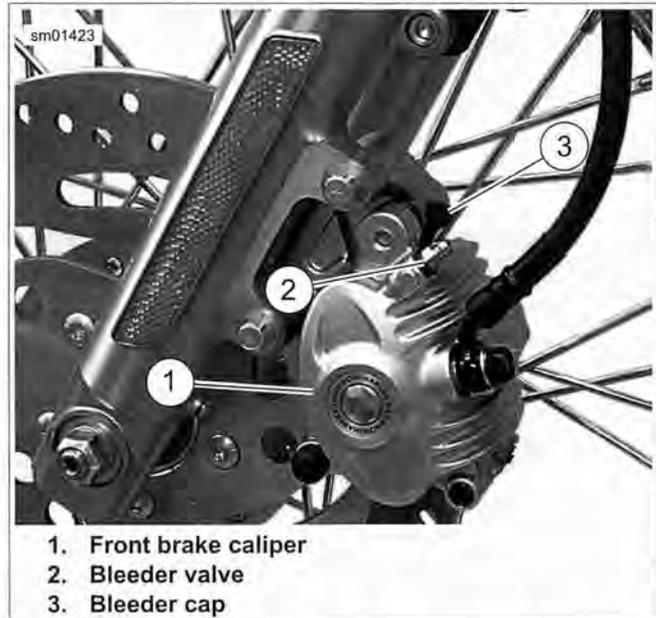
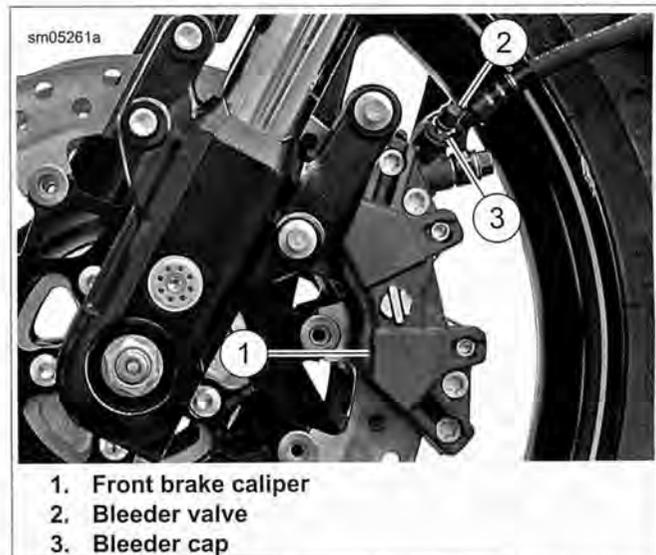

Figure 2-112. Front Brake Caliper: XL Models
Figure 2-113. Front Caliper Assembly: XR 1200X
1. See Figure 2-112 or Figure 2-113. Remove bleeder nipple cap (3) from bleeder valve (2) on front brake caliper (1). Install end of a length of 5/16 in (7.9 mm) I.D. clear plastic tubing over caliper bleeder valve (2), while placing free end in a suitable container. Open bleeder valve about 1/2 turn. Pump brake hand lever to drain brake fluid. Close bleeder valve.